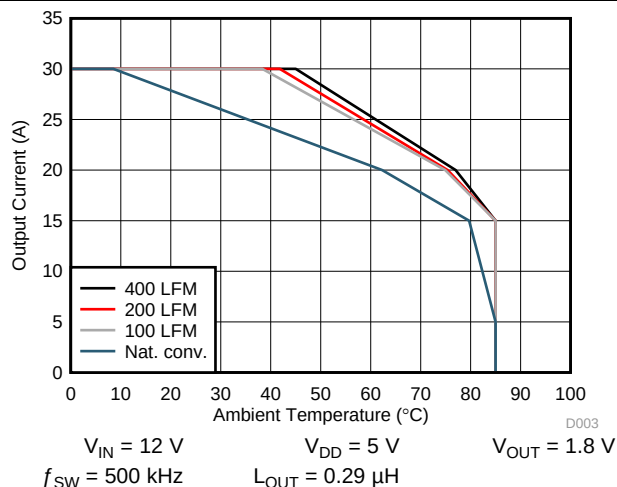
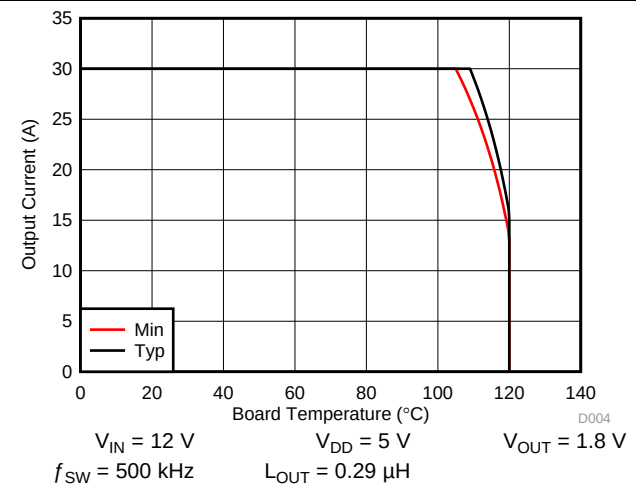

Figure 6. Safe Operating Area – PCB Horizontal Mount
Figure 7. Typical Safe Operating Area
$T_J = 125^\circ\text{C}$, unless stated otherwise. The Typical CSD97396Q4M System Characteristic curves (see Figure 6 and Figure 7) are based on measurements made on a PCB design with dimensions of 4.0" (W) $\times$ 3.5" (L) $\times$ 0.062" (T) and 6 copper layers of 1 oz. copper thickness. See System Example for detailed explanation.
The SOA curves in the CSD97396Q4M datasheet give engineers guidance on the temperature boundaries within an operating system by incorporating the thermal resistance and system power loss. Figure 6 and Figure 7 outline the temperature and airflow conditions required for a given load current. The area under the curve dictates the safe operating area. All the curves are based on measurements made on a PCB design with dimensions of 4.0 inches (W) $\times$ 3.5 inches (L) $\times$ 0.062 inch (T) and 6 copper layers of 1 oz. copper thickness.